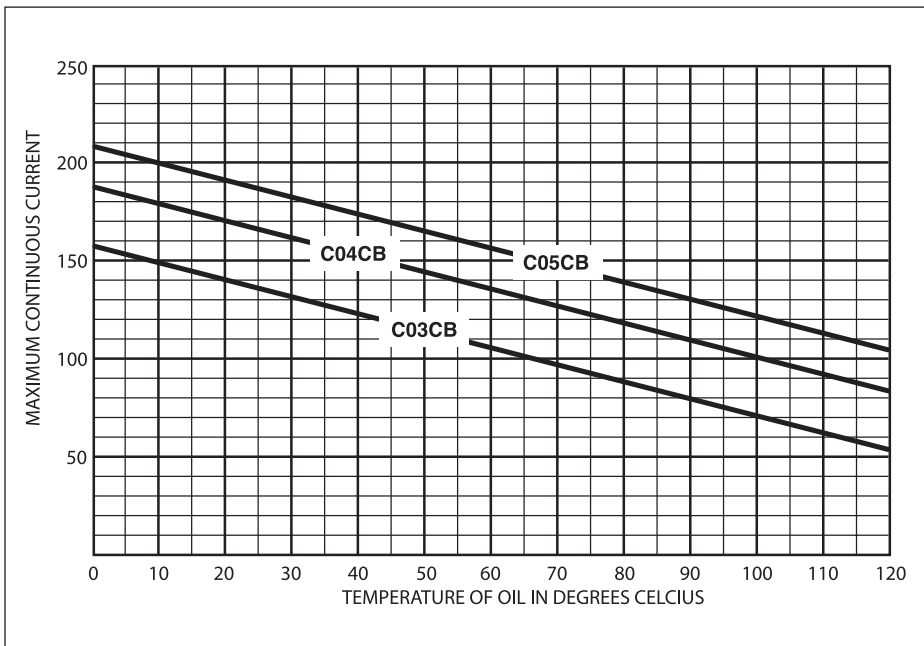

Figure 3. Deration curves for high ampere overload links.
* For current ratings at temperatures above 25°C, refer to deration curves in Figure 3.
Deration curves for the High Ampere Overload Links are shown in Figure 3. Long term overload curves for selected transformer ratings are also available upon request.